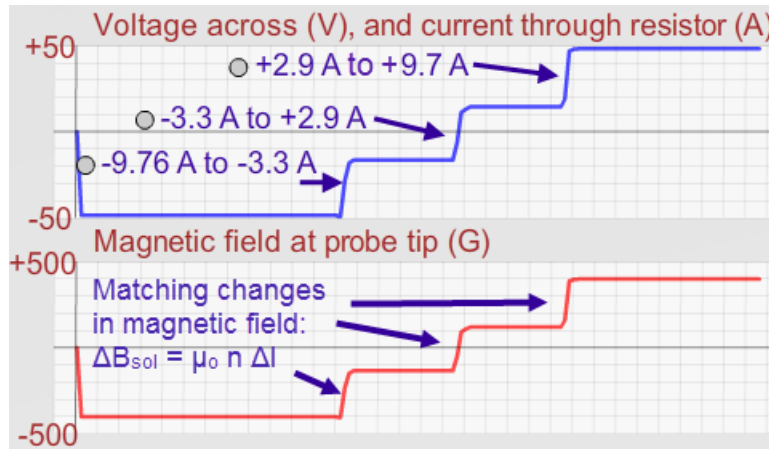

Figure 8: Change in Solenoid Magnetic Field Due to Quick Changes in Solenoid Current
- 13 Adjust the current to -10 A. **Start Data.** Change the current quickly through our sequence of four currents **with brief pauses at each current.** You should find something like Figure 8. The currents were found using the Graph Tool.